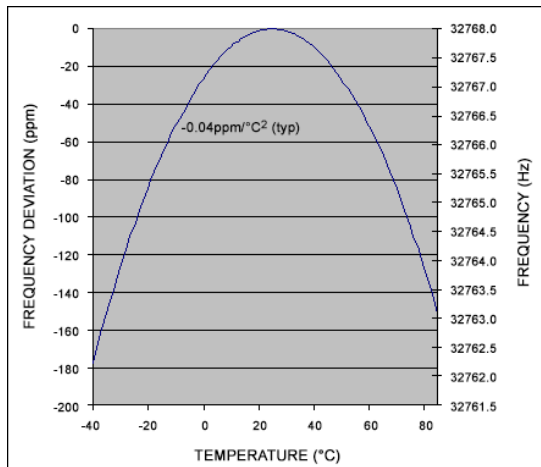

Figure 2. Crystal frequency vs. temperature.
In addition to the errors from the crystal and the load match, crystals vary from their base frequency as the ambient temperature changes. Maxim RTCs use "tuning fork" crystals, which exhibit an error over temperature, as shown in **Figure 2**. An error of 20ppm is equivalent to approximately 1 minute per month.
3. If possible, place a guard ring (connected to ground) around the crystal. This helps isolate the crystal from noise coupled from adjacent signals. See Figure 2 for an illustration of using a guard ring around a crystal.